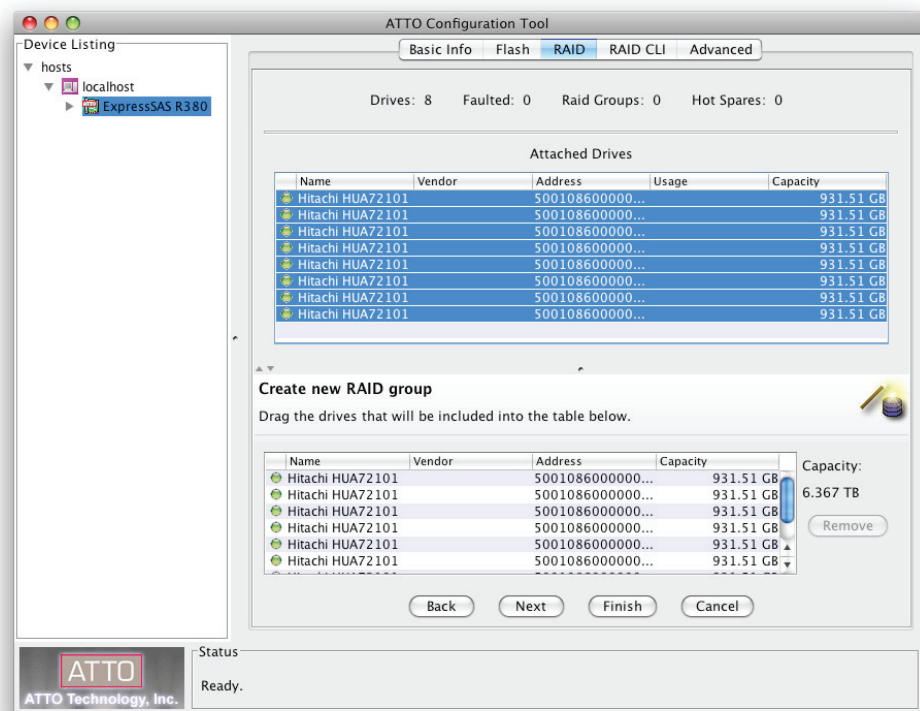

Figure 12
3. Click **Next**. Select the drives in the top pane and drag them into the device area in the bottom pane. See **Figure 12** on page 13.